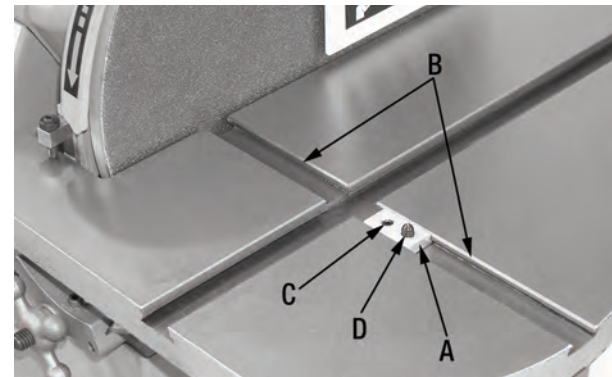

Figure 11
A centre point (A) Fig.11 is provided to allow sanding of round workpieces. The centre point gets installed in the small T-slot perpendicular to the sanding disc. The centre point gets positioned according to the radius of your round workpiece. If your round workpiece has a diameter of 8", the centre point pin (D) must be positioned 4" away from the sanding disc.
1. Slide the centre point assembly into the small T-slot (B) perpendicular to the sanding disc table.
2. Once positioned in the correct position, secure the centre point by tightening the set screw (C).
3. Position the centre of your round workpiece on the centre point pin (D).